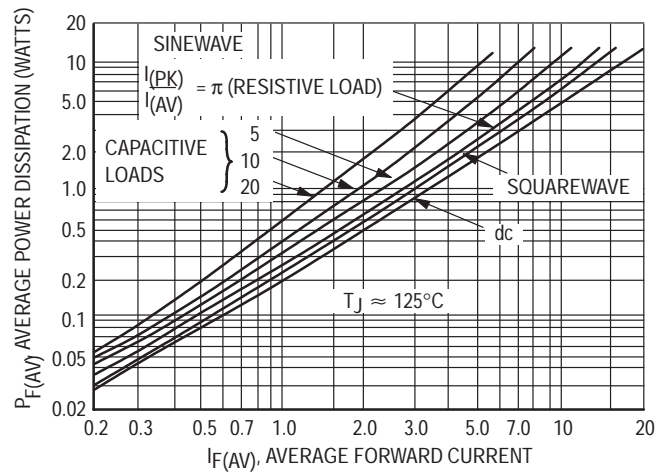

Figure 4. Forward Power Dissipation
Step 3. Find P_F(AV) from Figure 4. **Read P_F(AV) = 5.5 W